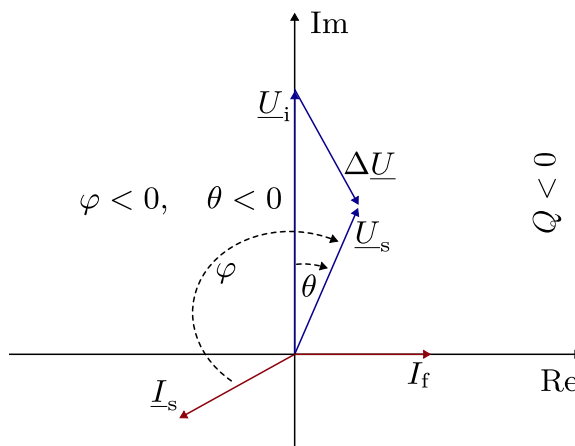

Figure 6.3.2: Phasor diagram of an over excited synchronous machine in generator mode.
6.3.5 In the next task, the machine operates as generator and the power is 500 kW. The phasor diagram for this operation is shown in Fig. 6.3.2. Which load angle θ is set at the new operating point?